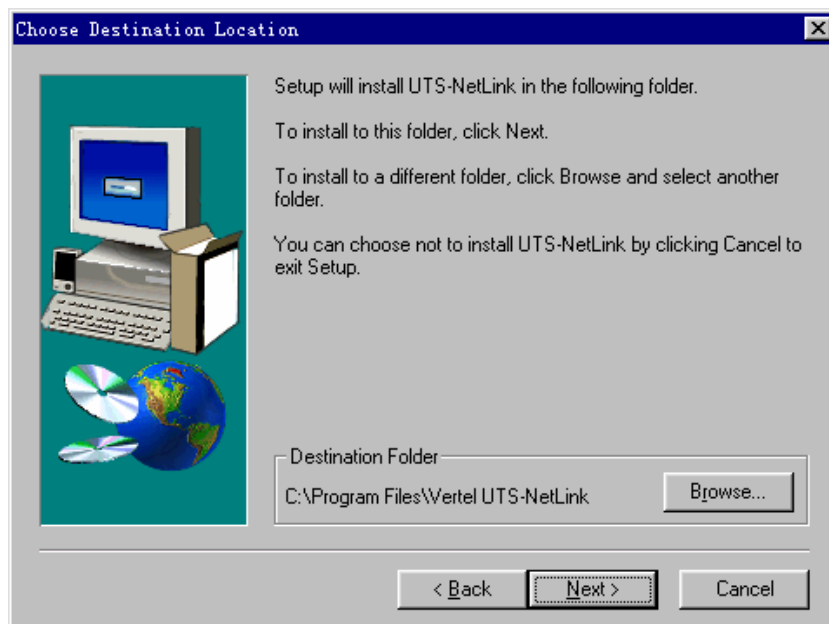

Figure 2-53 [Choose Destination Location] dialog box
- 3) Click <Yes> to accept the agreement. The [Choose Destination Location] dialog box is displayed, as shown in Figure 2-53.